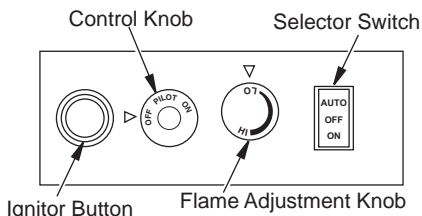

Figure 17 - Control Knob and Ignitor Button Locations
4. Press in and turn control knob clockwise to the OFF position see Figure 17.
5. Wait five (5) minutes to clear out any gas. Then smell for gas, including near the floor. If you smell gas, STOP! Follow "B" in the safety information, page 15. If you don't smell gas, go to the next step.
6. Press in and turn control knob counterclockwise to the PILOT position. Press in control knob for five (5) seconds see Figure 17.